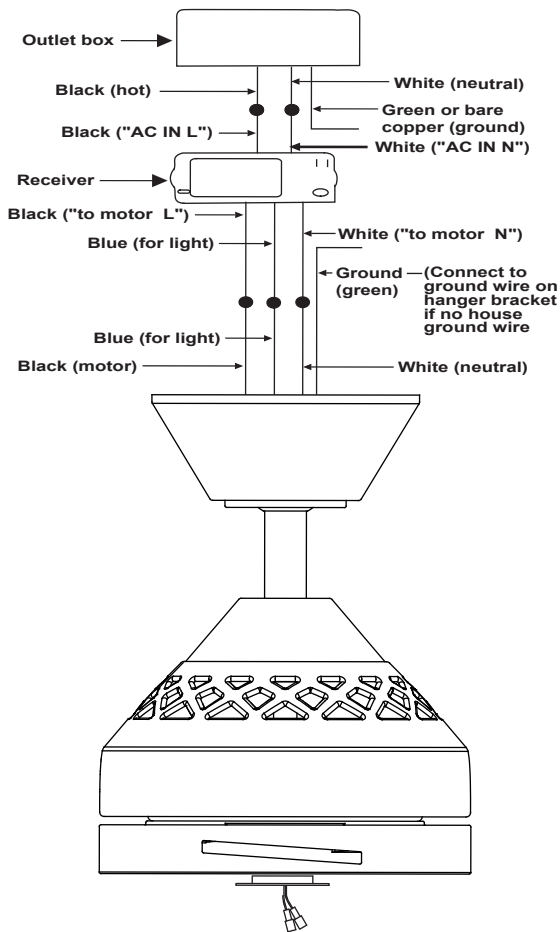

Fig. 14
**Step 2.** Motor to Receiver Electrical connections (Fig.14). Connect the black wire from the fan to the black wire marked "TO MOTOR L" on the receiver.
**Step 3.** Receiver to House Supply Wires Electrical Connections: Connect the black (hot) wire from the ceiling to the black wire marked "AC in L" from the receiver. Connect the white (neutral) wire from the ceiling to the white wire marked "AC in N" from the Receiver. Secure the wire connections with the plastic wire nuts provided. (Fig. 14)
**Step 4.** If your outlet box has a ground wire (green or bare copper) connect it to the fan ground wires; otherwise connect the hanging bracket ground wire to the mounting bracket. Secure the wire connection with a plastic nut provided. After connecting the wires, spread them apart so that the green and white wires are on one side of the outlet box and black and blue wires are on the other side. Carefully tuck the wire connections up into the outlet box. (Fig.14)